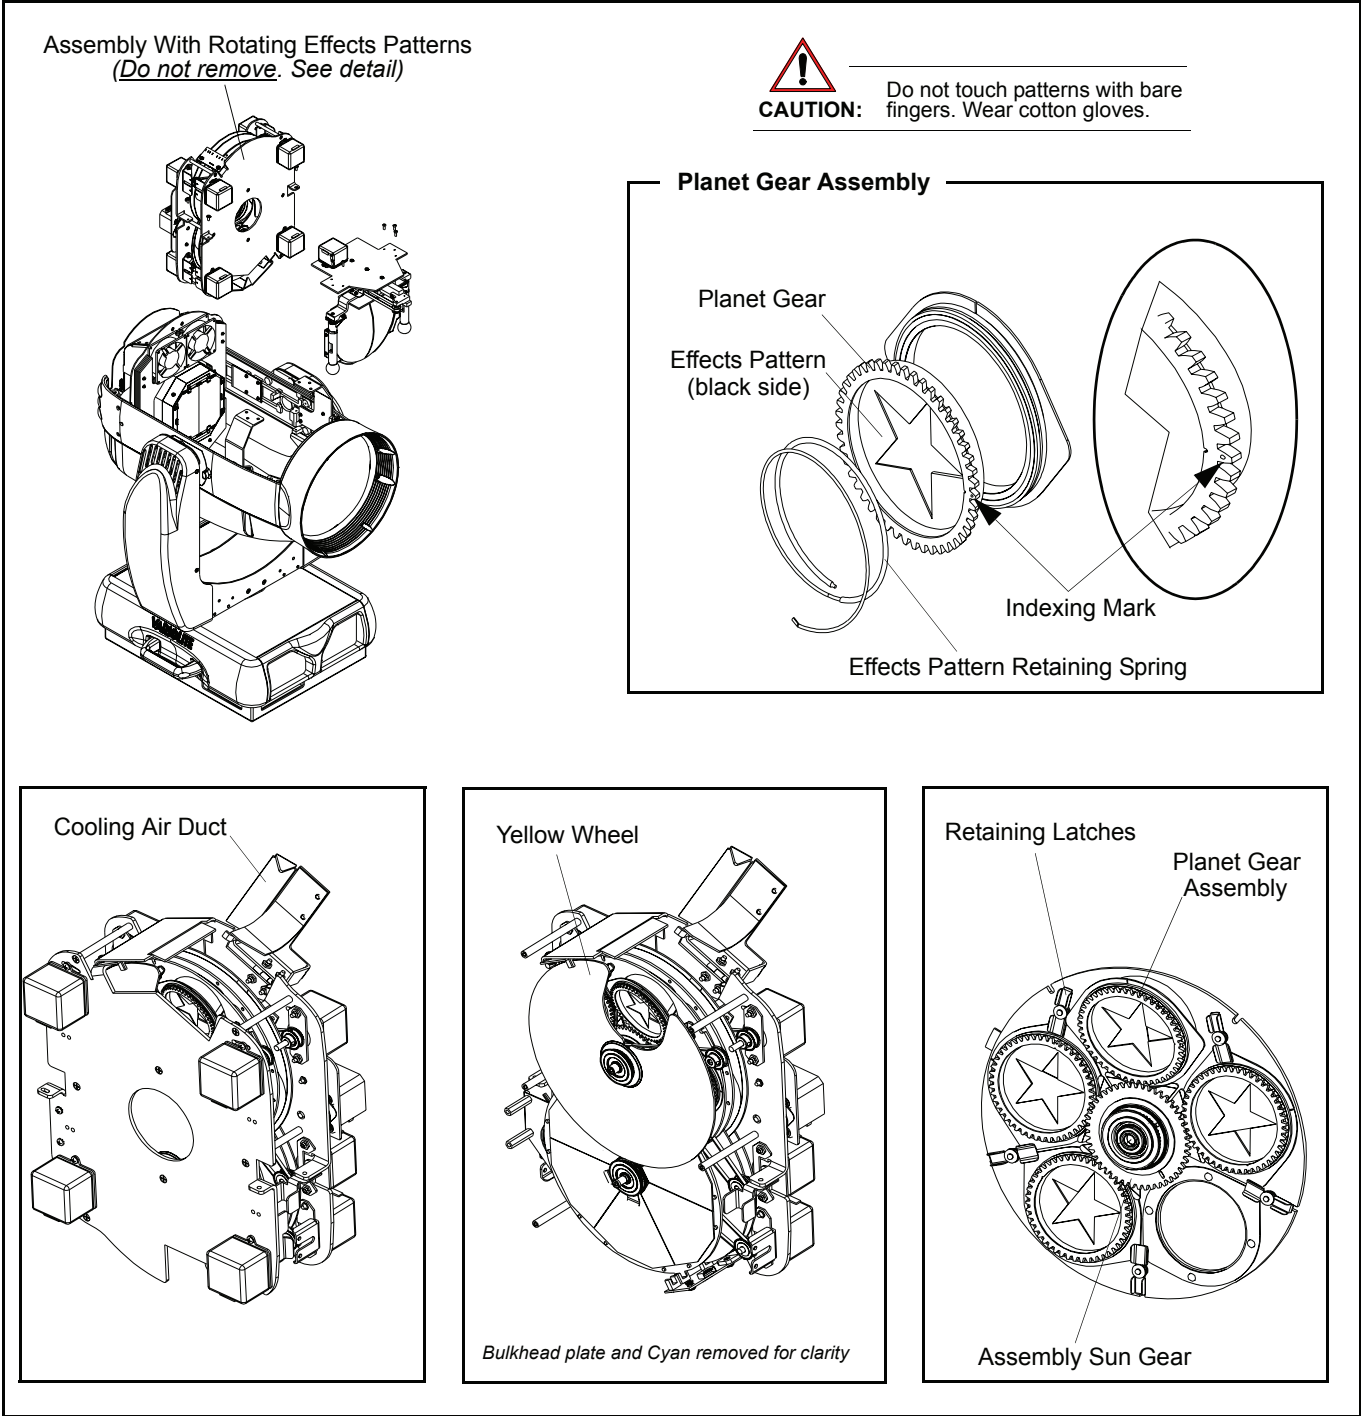

Figure A-7: FX Pattern Replacement (VL3500 Wash FX Only)
- c. Install new pattern in same orientation (including black side up in the gear as shown in Figure A-7 - reflective side must face lamp). This ensures all will calibrate in the same orientation.